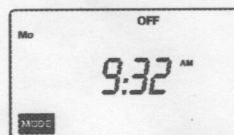

Figure 13
- Push MODE button to select OFF. The word OFF will blink to indicate that it is selected. (See Figure 13)